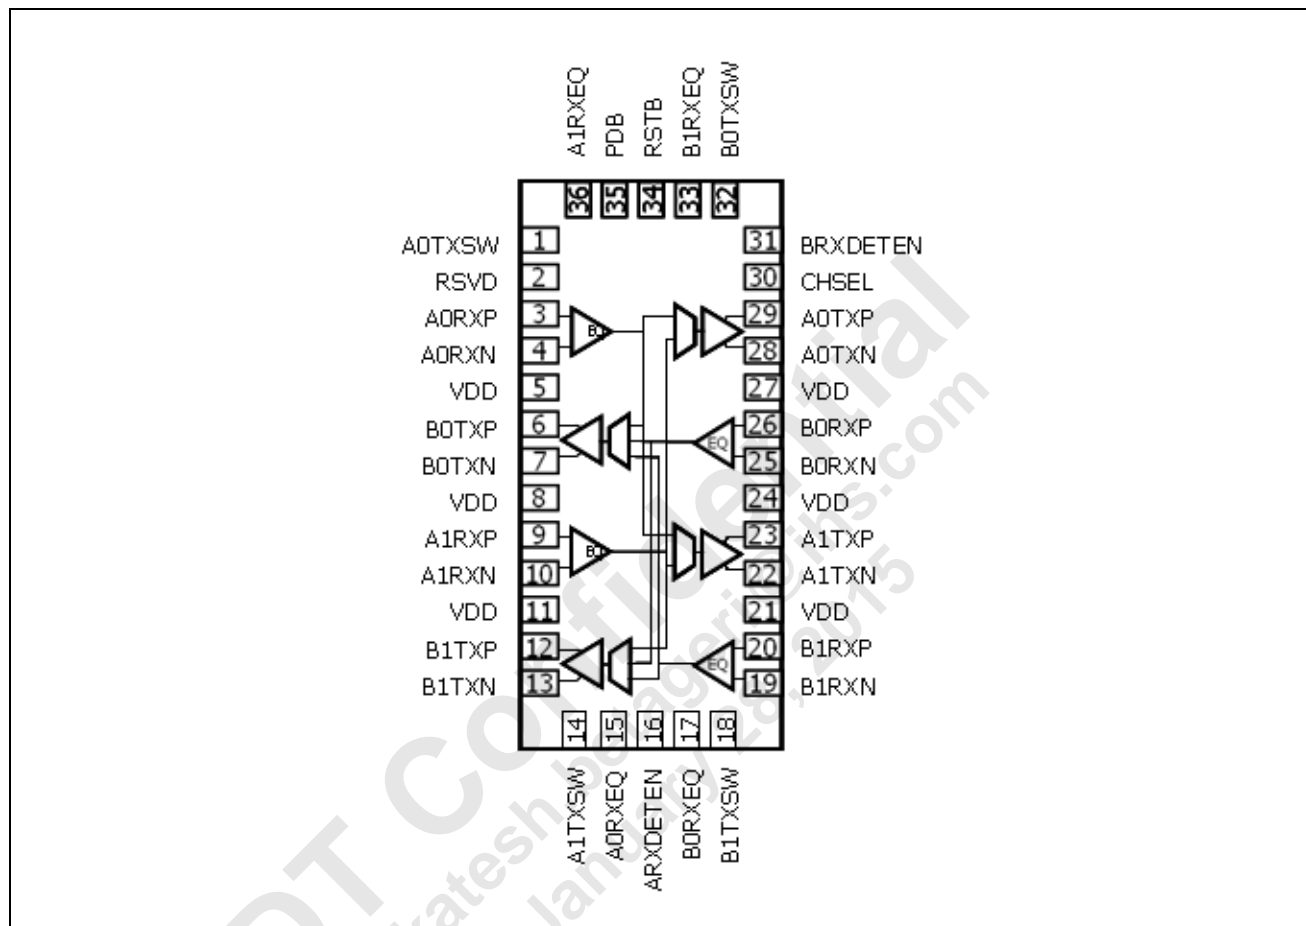

Figure 16 Pin Diagram — Top View
**May 25, 2011:** Added Note regarding data pin swaps under Figure 16.